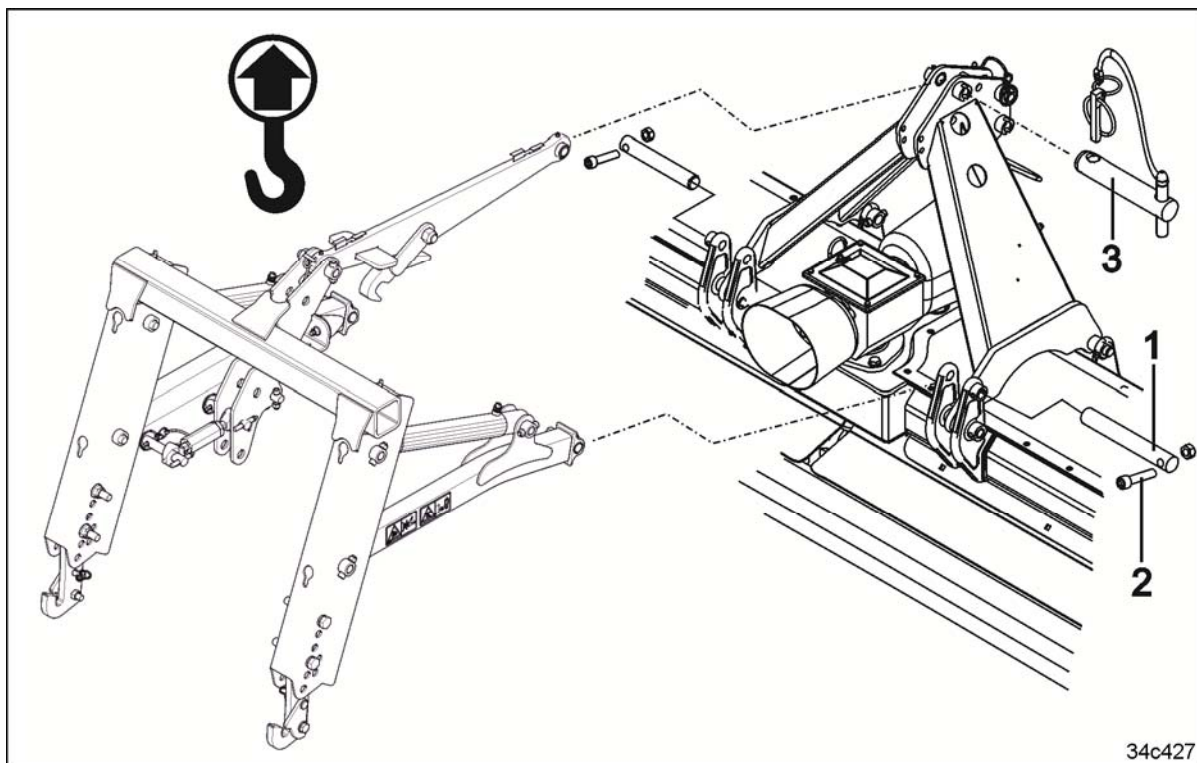

Fig. 87
5. Peg the lifting frame at the lower pivot points. Secure the pin (Fig. 87/1) with a screw (Fig. 87/2) and nut.
6. Position the upper link with a pin (Fig. 87/3) and secure with a linch pin.